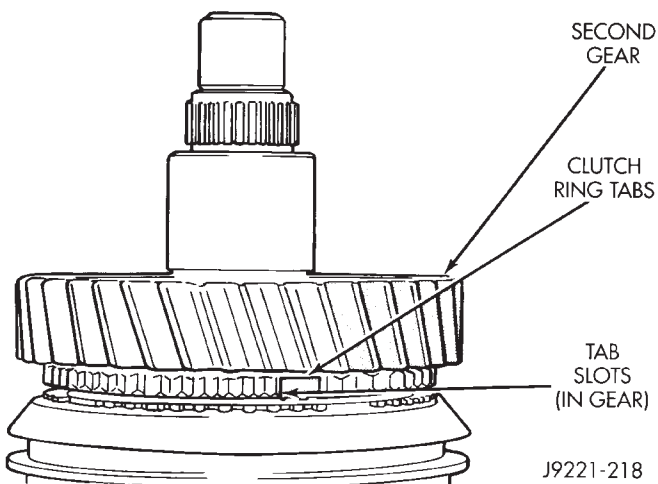

Fig. 104 Second Gear Installation
(13) Install second gear on mainshaft and bearing. Rotate gear until tabs of second gear clutch ring are fully seated in tab slots in gear (Fig. 104).